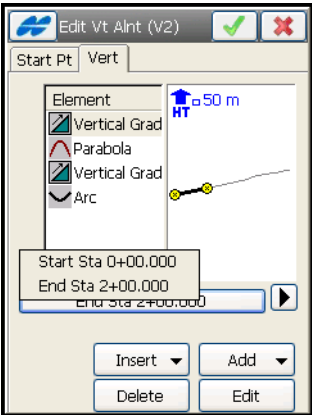

Figure 7-17. Information on Start and End Stations
- Tap *End Station* information under the list of elements or long sections to view the start and end stations for the selected item (Figure 7-17 on page 7-15).
5. Tap the ok  button on the **Add Vt Alnt** screen (Figure 7-17) to save the vertical alignment created and return to the **Vt Alnt** screen. The new vertical alignment will be displayed in the list.
1. To add a vertical grade, select the *Vertical Grade* option from the **Insert** or **Add** floating menu on the *Vert* tab of the *Edit Vt Alnt* screen (Figure 7-17 on page 7-15).
1. To add a curve, select the *Curve* option from the **Insert** or **Add** floating menu on the *Vertical* tab of the *Edit Vt Alnt* screen (Figure 7-17 on page 7-15). The *Curve* screen displays.
- 3. Tap the ok  button to save the element to the road and to return to the *Add Vt Alnt* screen (Figure 7-17 on page 7-15).